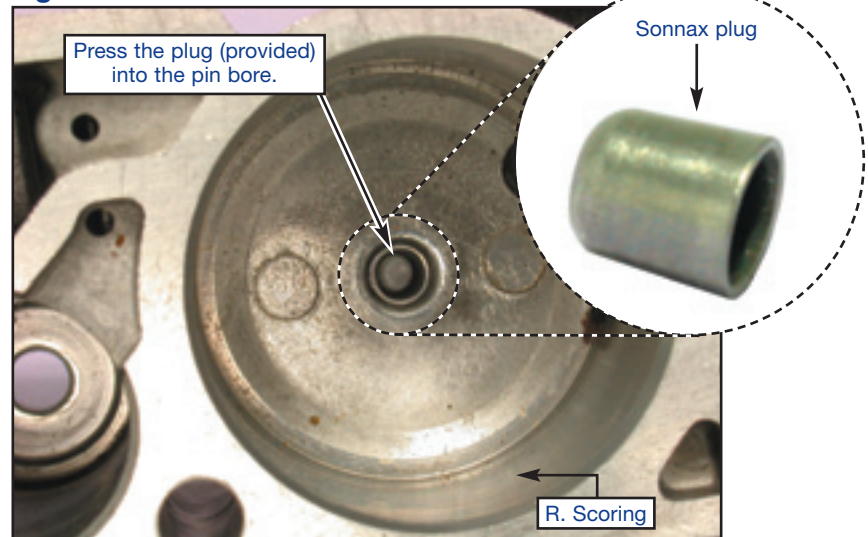

Figure 2
6. Press sleeve into the bore with an arbor press, and an appropriately sized arbor. The sleeve will sit .070"-.095" above the surface of the accumulator housing (see Figure 2).
8. Install the Teflon® seal into the open end groove of the piston and the d-ring into the closed end groove of the piston (see Figure 2).